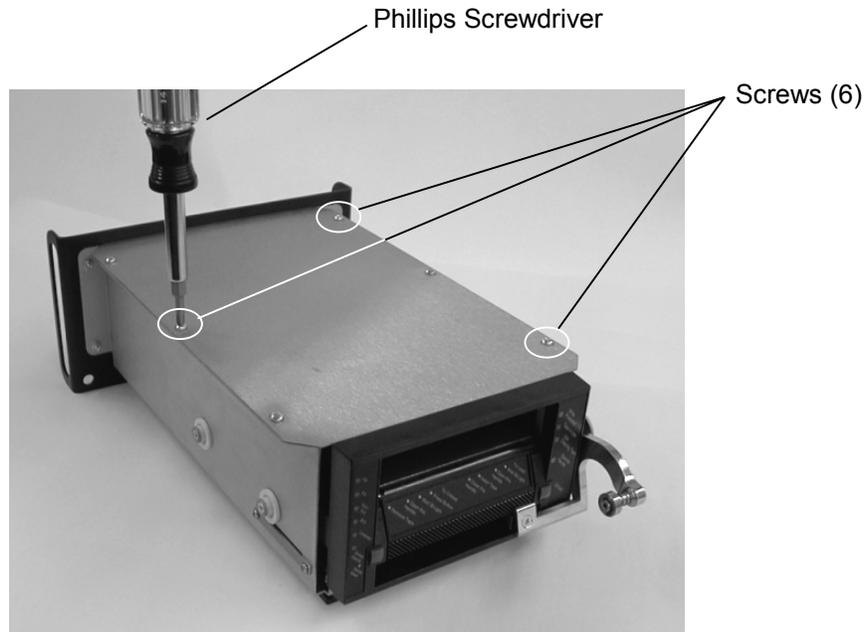

Figure 5-20 Screws in Top Cover of Quantum DLT Tape Drive
2. Using a Phillips screwdriver, remove the six screws that secure the top cover. See Figure 5-20.